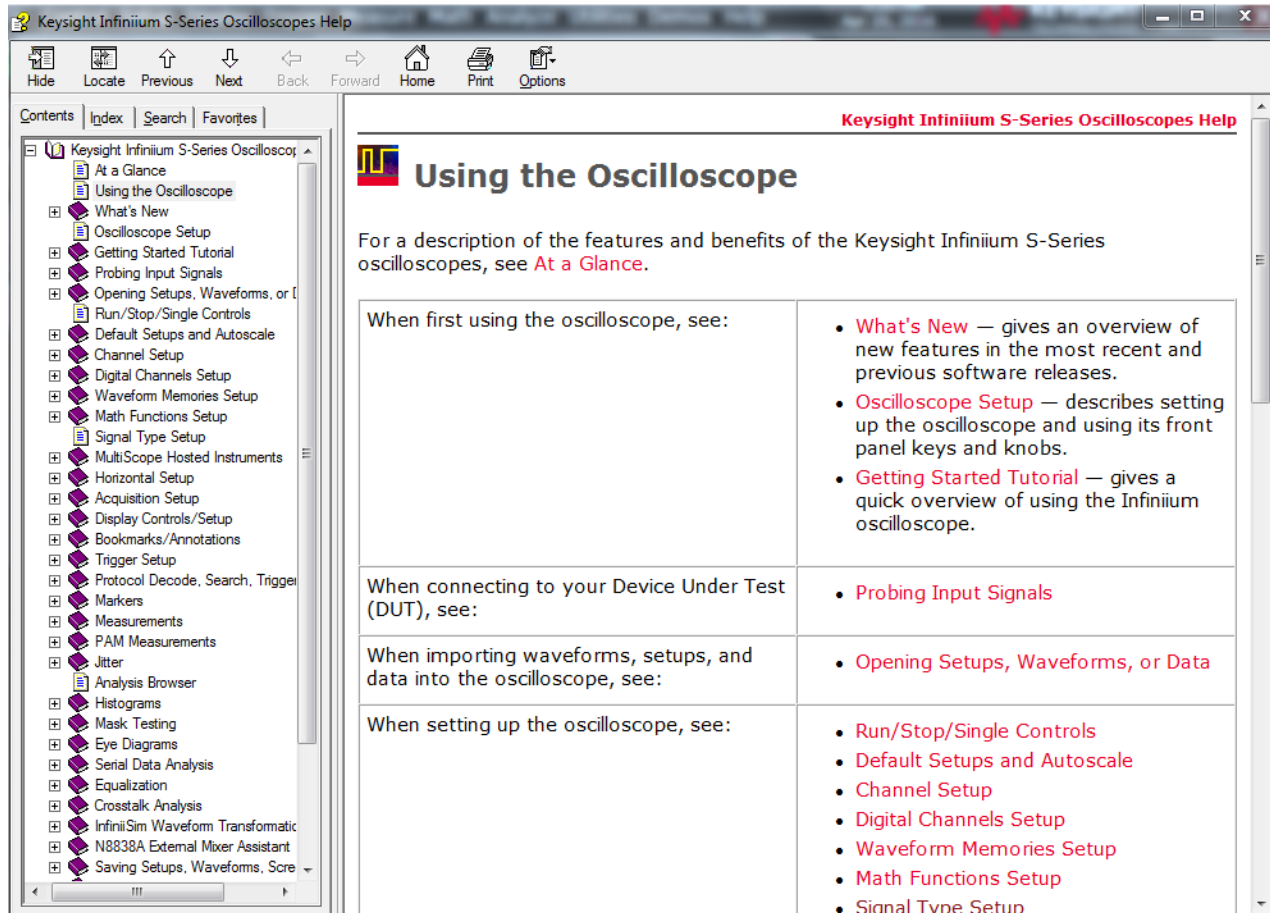

Figure 20 Online Help home page
- Choose **Help > Contents...** from the main menu to open the online help home page (**Figure 20**).